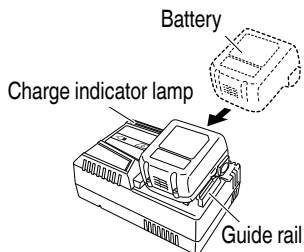

Fig. 5
2. Insert the battery to the battery charger. Firmly Insert the battery into the battery charger as shown in Fig. 5.